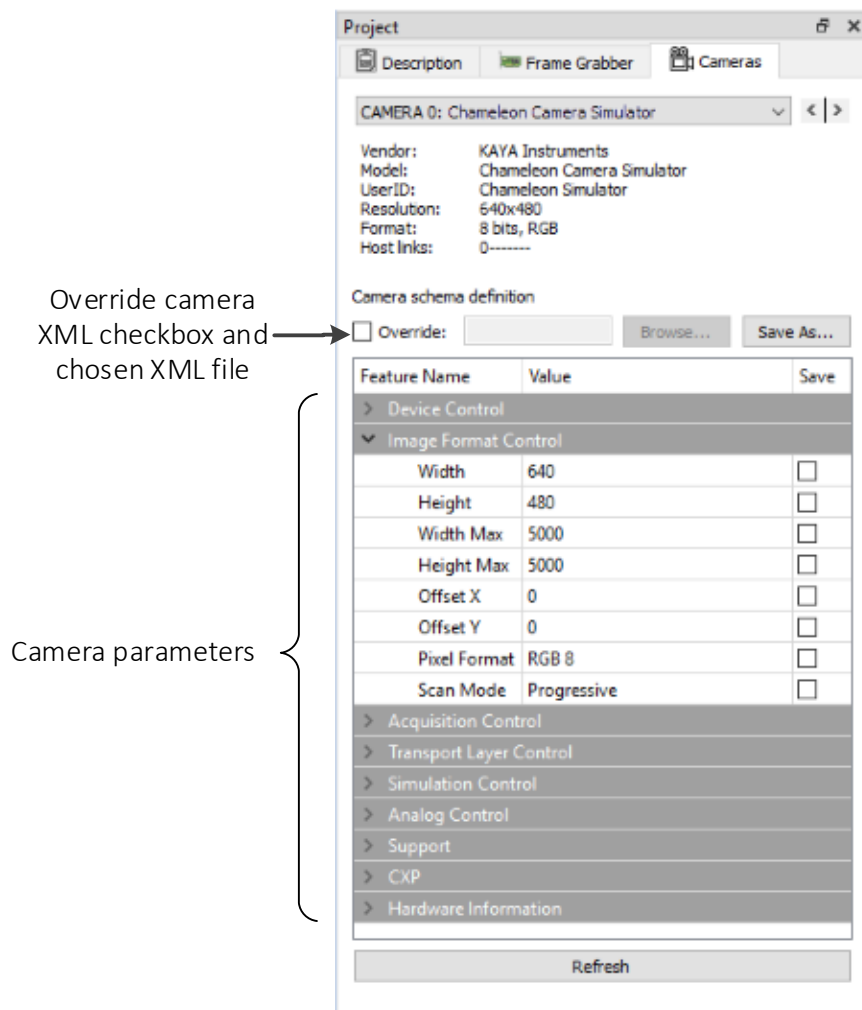

Figure 6 – Camera navigator tab
4. A Camera tab enables configuring the camera GenCam parameters listed in the camera XML file. An external XML file may be loaded in the absence of a native one from the camera. The camera tab is shown in Figure 6.